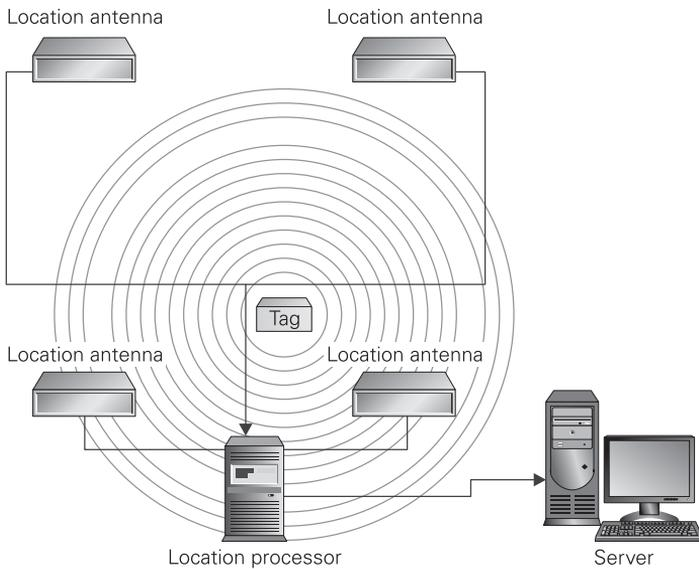

FIGURE 5.7 RTLS based on DTOA
- **Differential Time of Arrival (DTOA)** DTOA systems employ a tag attached to an object that beacons on a given interval or is awaked upon an event and then beacons. When the tag transmits, receivers within range of the tag time stamp when they receive that particular ID. This information is then passed to a location processor that measures the difference between the receipt times of at least three receivers, which allows the processor to “triangulate” the position of the tag, as depicted in Figure 5-7. Currently, this is the most accurate location technology available today.